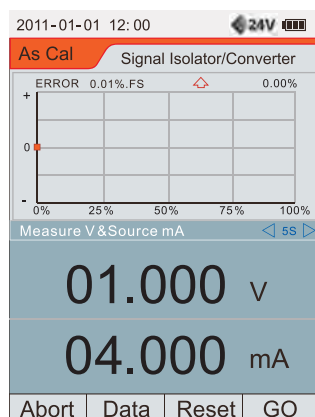

Figure 9.36 Curve display
3. Use **↑** or **↓** key to select the isolator / converter option, press **F4** or **Enter/ Hold** key to enter As Cal execution interface, as shown in Figure 9.36.